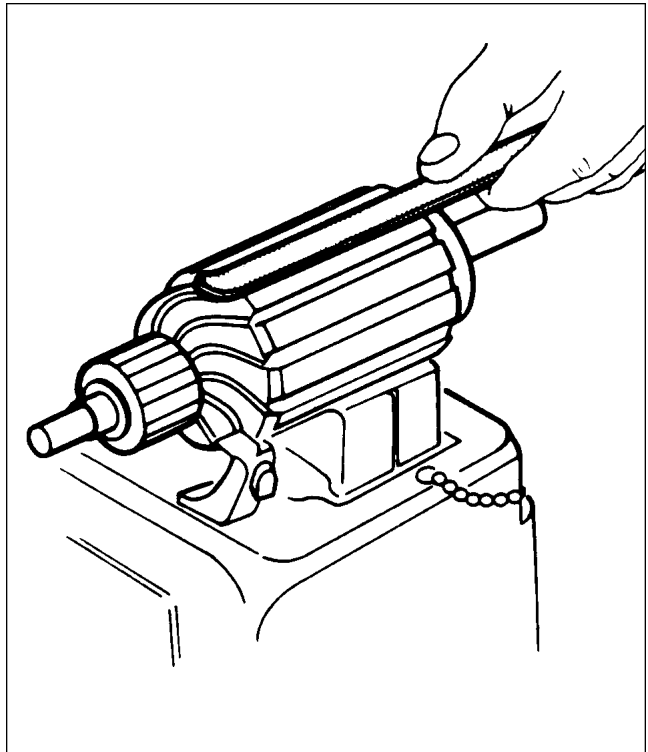

Figure 11-51. Testing Motor Armature for Shorts
c. To test for shorted armature coils, use a growler. (Refer to figure 11-51.) Armature is placed on growler and slowly rotated by hand while a steel strip is held over the core so that it passes over each armature core slot. If a coil is shorted, steel strip will vibrate.